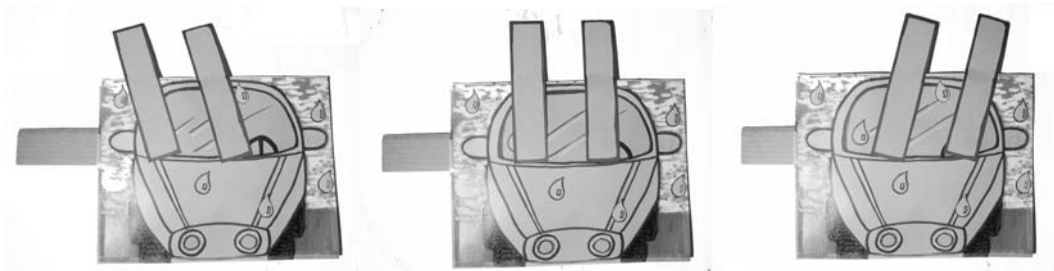

Figure 1: Windshield Wipers, showing output motion as input moves to the right
1. **Windshield Wipers MechAnimation and Worksheet.** Demonstrate the Windshield Wipers MechAnimation several times. See Figure 1. What story is it telling?